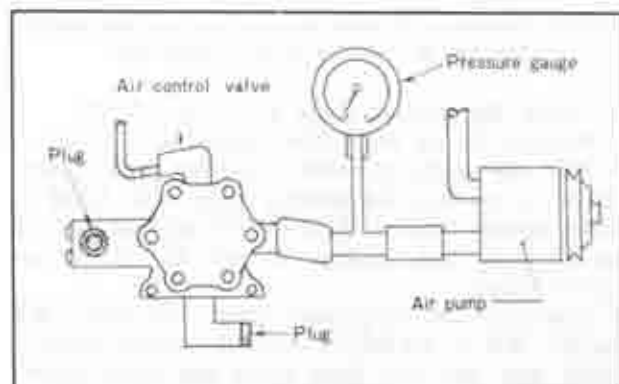

Fig. 1A-39 Checking of air pump
2. Attach a pressure gauge as in Fig. 1A-39.